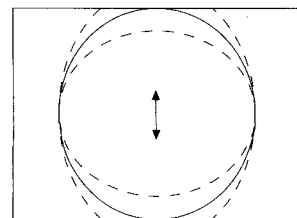

Fig. 7
- Adjust the Vertical location to obtain picture centering (fig. 7).